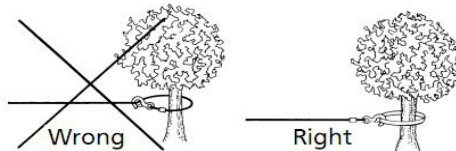

Figure 4
9. NEVER HOOK THE ROPE BACK ONTO ITSELF because you could damage the synthetic rope. Use a Tree Trunk Strap (Figure 4)